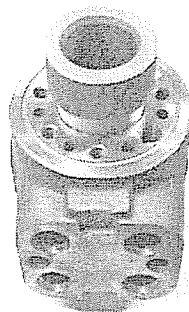

Figure 14
7. Insert sleeve into housing bore (Figure 14)